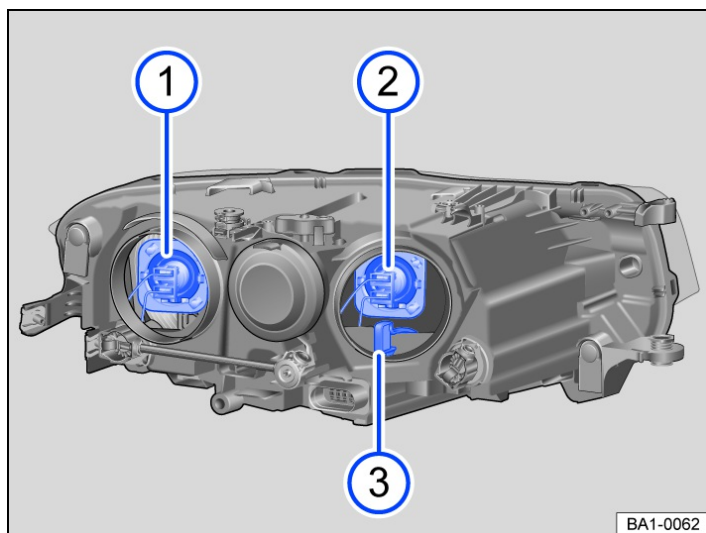

Fig. 2 In the engine compartment: changing bulbs in the left headlight.
4. Dipped beam: press the bulb down at the base until it is released → Fig. 2 ①. Pull out the bulb to the rear.
Main beam: press the bulb up at the base until it is released → Fig. 2 ②. Pull out the bulb to the rear.
Turn signal: pull the bulb holder with the bulb out to the rear → Fig. 2 ③.